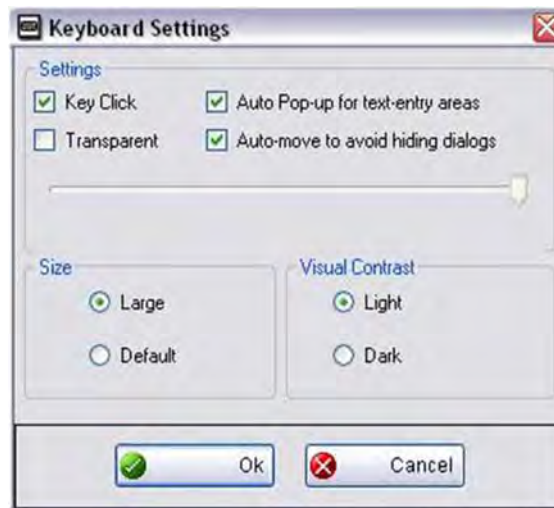

Figure 3-5 Settings window
- **Settings** - opens the Virtual Keyboard settings window (Figure 3-5)
1. **Settings icon** - opens the Virtual Keyboard settings window (Figure 3-5)
The Virtual Keyboard can be set to open automatically, when a data field or form is selected in certain applications. See the Settings window (Figure 3-5) for selection options.